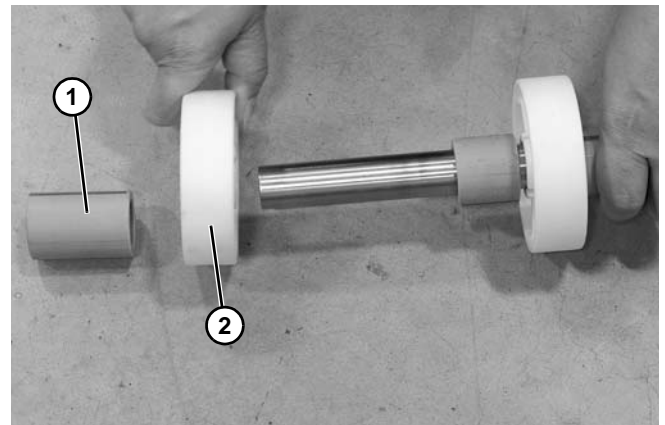

Figure 65
4. Slide off the spacer (Figure 65, item 1).
5. Slide off the puck and replace (Figure 65, item 2).